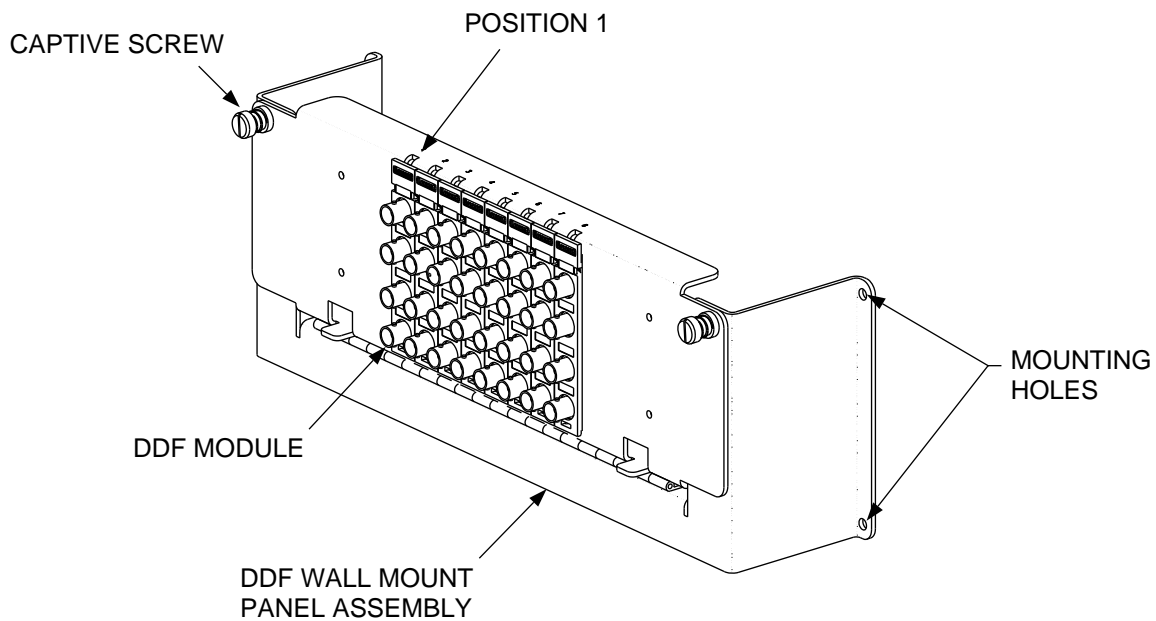

Figure 1. Installing the DDF Wall-Mount Assembly
1. Locate panel mounting position on the wall and secure with appropriate hardware in the four corner mounting holes provided, as shown in Figure 1.